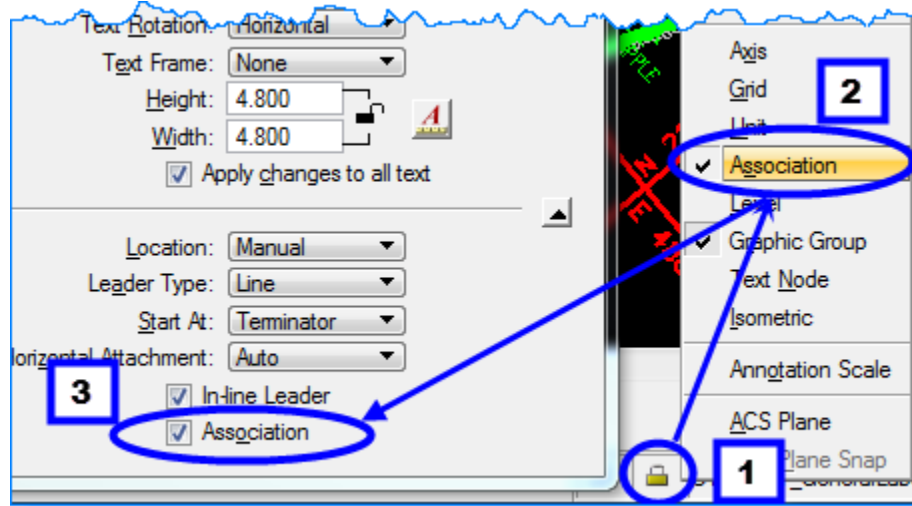

Figure 69 - Association Lock
**Note:** To associate the note with the item on the cut sheet, turn on Association Lock (Figure 69) and then toggle on Association on the Place Note command. With association turned on, the notes can be moved and the terminator will stay/remain at the pay item where it was originally placed. This helps when it becomes necessary to relocate a call out. (Exception: See Drawing No.)